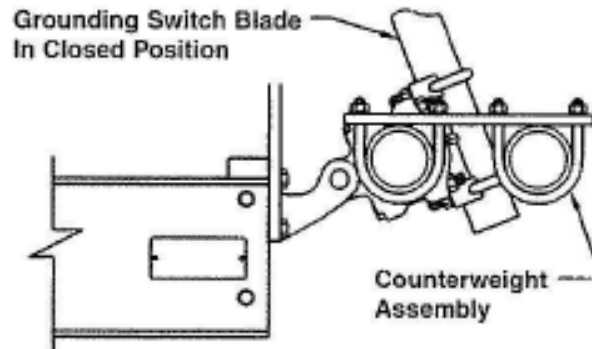

Figure 9: Counterweight Assembled
4. If furnished with a Counterweight, refer to the Grounding switch Unit Assembly and **Figure 9** for installation details.